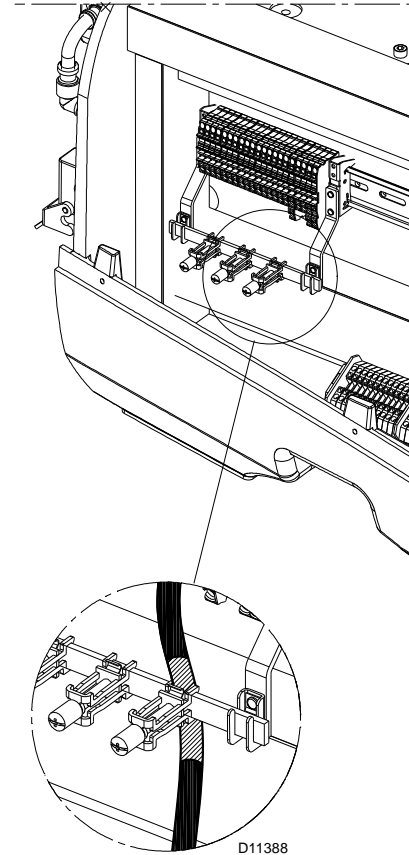

Fig. 31
- 1 The connection from the Inverter to LMV52.... must be done as shown in Fig. 31.
- 2 The connection from the speed sensor to LMV52.... must be done as shown in Fig. 31
- 3 Possible pressure/temperature probes and O₂ sensor connection must be done as shown in Fig. 31.